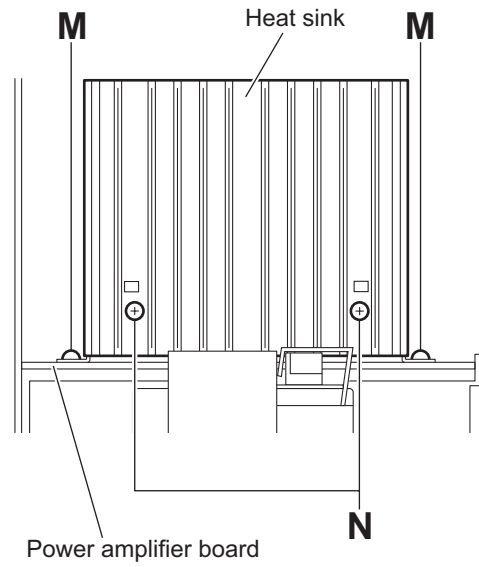

Fig.18
3.1.11 Removing the heat sink and heat sink B (See Figs.18 and 19)
- (1) From the top side of the main body, remove the two screws **M** attaching the heat sink on the power amplifier board. (See Fig.18.)
- (2) From the side of the power amplifier board, remove the two screws **N** attaching the heat sink. (See Fig.18.)